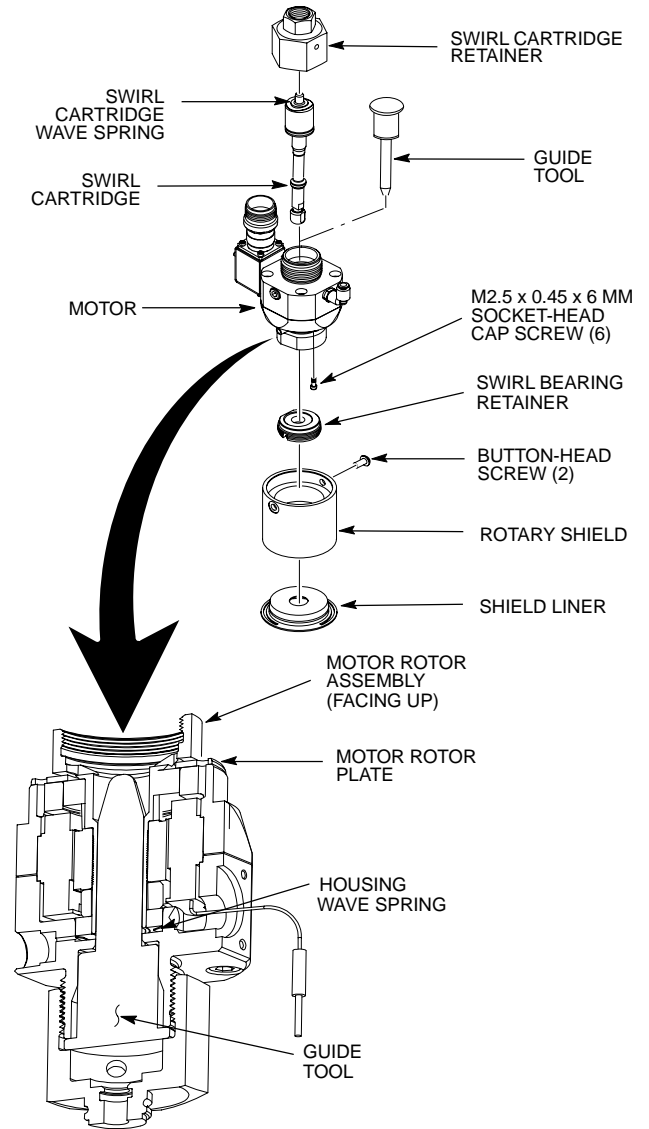

Figure 1 Motor Rotor Replacement
1. See Figure 1. Remove the button-head screws securing the rotary shield to the motor.
1. See Figure 1. Remove and save the socket-head cap screws securing the motor rotor plate to the motor. Pull the motor rotor assembly out of the motor.